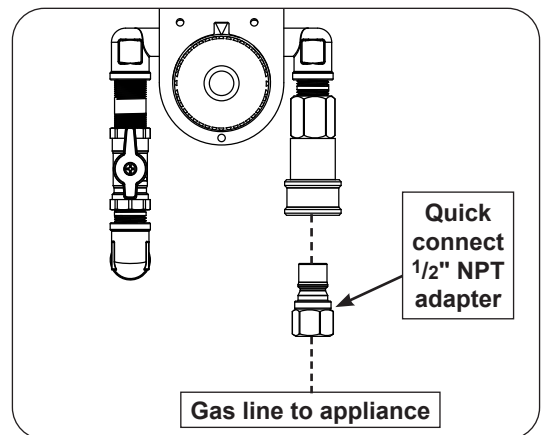

Fig. 2-4 Connect to gas line
8. Connect the other end of the adapter to the quick connector located inside the box assembly (see Fig. 2-4).